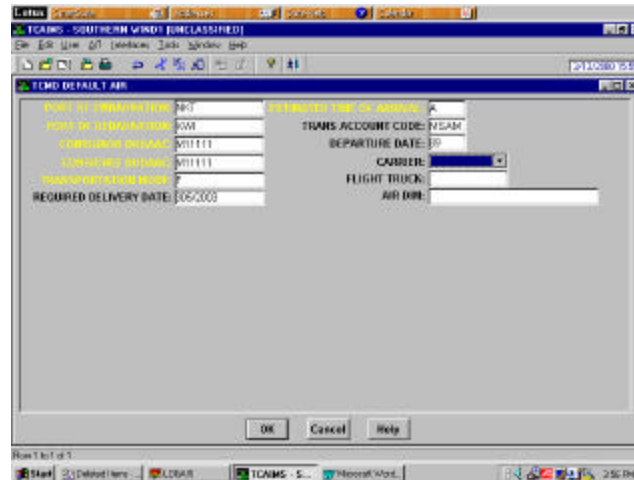

Figure 5
STEP 9. In the TCMD Default Air box use the look-up option to put in a Departure Date of 30 Mar 2003. See figure 5.